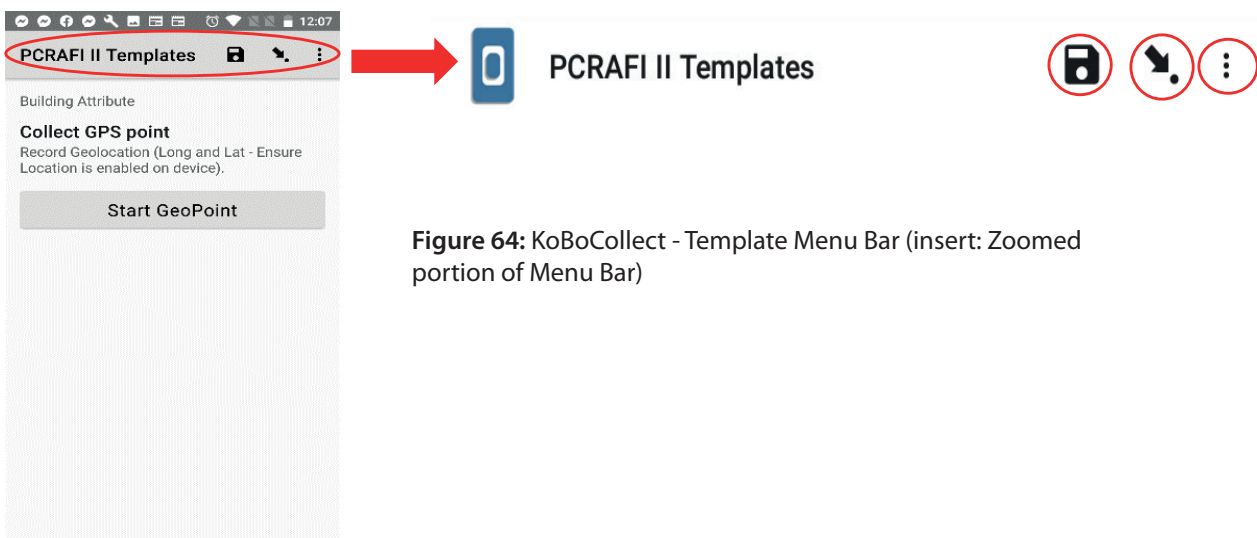

Figure 64: KoBoCollect - Template Menu Bar (insert: Zoomed portion of Menu Bar)
1. Once the templates have been accessed, the following menu will appear on the top (Figure 64).